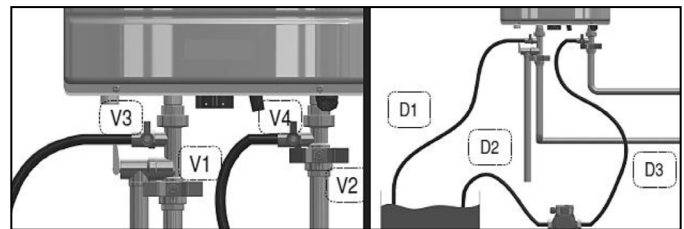

Figure 59 - Flushing the Water Heater
2. Close the shutoff valves on both hot water outlet and cold water inlet lines (V1 and V2). See Figure 59.
3. Connect one hose (D1, Figure 59) to the valve (V3) and place the free end in a bucket. Connect one of the hoses (D3) to the circulation pump outlet and the cold water inlet line to valve V4. Connect the other hose (D2) to the circulation pump inlet and place the free end in the bucket.